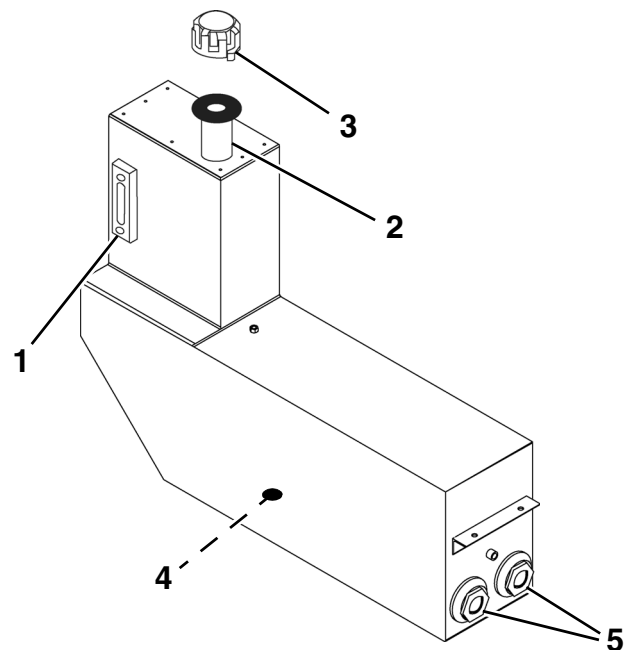

Figure 7-5
A 25 gallon hydraulic reservoir and filter(s) complete the Hydraulic System (**Figure 7-5**). This manual contains general system maintenance guidelines. Detailed service and maintenance information is available directly from the hydraulic component manufacturers.
The hydraulic reservoir is located on the right side of the machine. The fill cap is on top of the reservoir. The hydraulic reservoir has a sight gauge on the right side used to monitor hydraulic oil levels (**Figure 7-5, 1**).
1. Check the level of hydraulic oil prior to each day's operation of the machine. Hydraulic oil should be visible in the sight gauge (**Figure 7-5, 1**). If not, fill the tank until oil is visible in the sight gauge.
2. The fill cap strainer (**Figure 7-5, 2**) should be cleaned each time hydraulic oil is added or changed.
3. The filler cap (**Figure 7-5, 3**) should be padlocked, when possible, to eliminate tampering.
6. Drain and replace hydraulic oil and filter after the first 100 hours of service, and after every 500 hours of service or annually, whichever comes first. Drain the hydraulic oil by removing the plug (**Figure 7-5, 4**). For convenience, a customer supplied drain hose can be attached to drain fluid into a container.
7. The suction strainer (**Figure 7-5, 5**) should be removed and cleaned at the 500 hour service interval or whenever the hydraulic oil is changed.